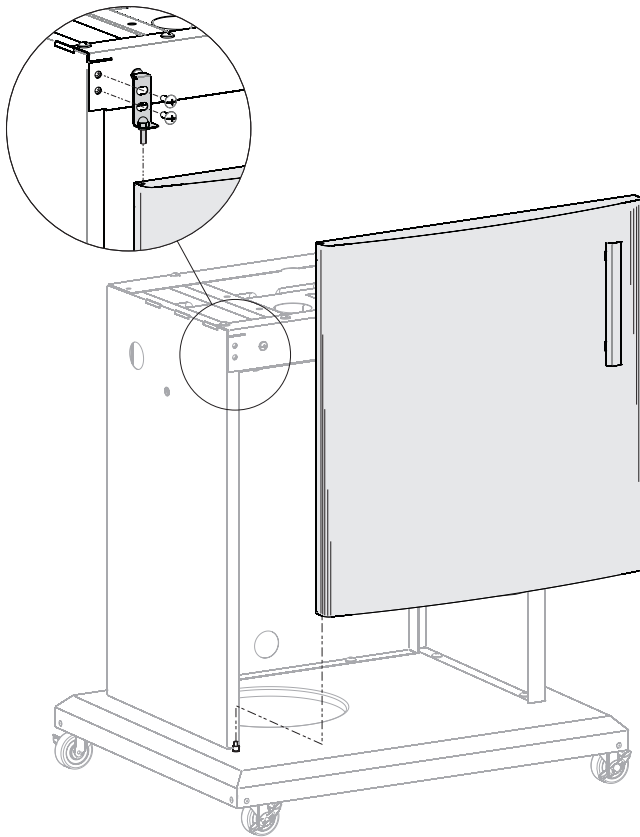

Figure 10
15. Place Door on peg. Place peg on Hinge Assembly into the hole on the top left of the Door. Slide the tab on the Hinge Assembly into the slot on the Stabilizing Bracket. Replace screws removed in Step 13. See Figure 10. Before tightening screws, align Door so that it moves freely.